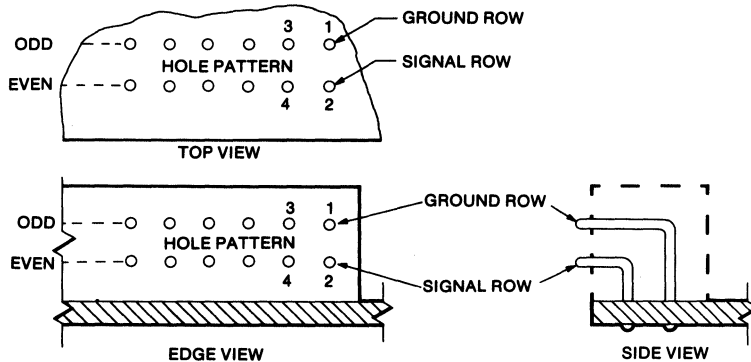

Figure 2-3. Recommended Connector Arrangement for Priority Encoder Cards
- Connector layout for priority encoder cards is as shown in figure 2-3. The ground pins are the top row and the request pins are the bottom row.